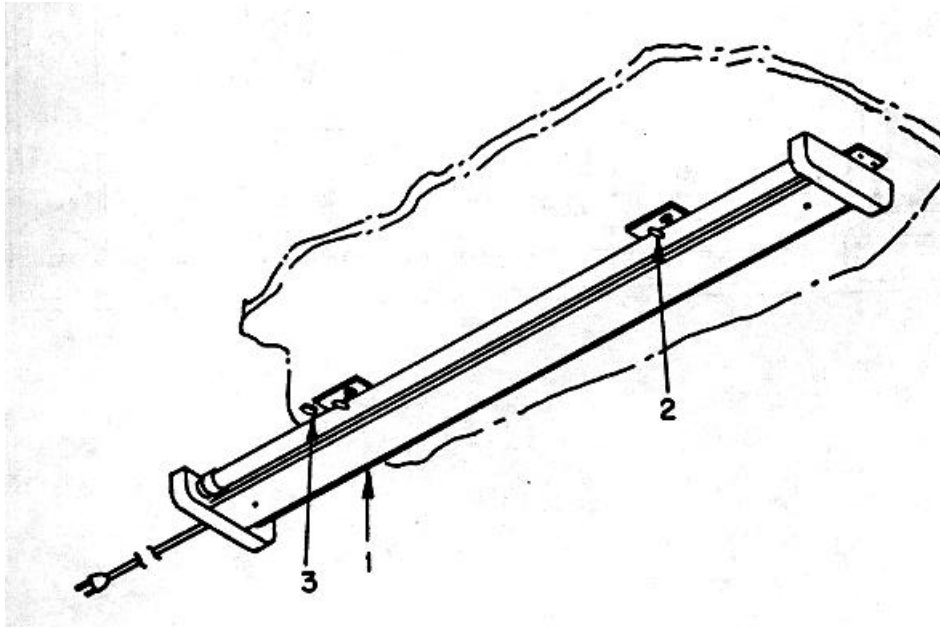
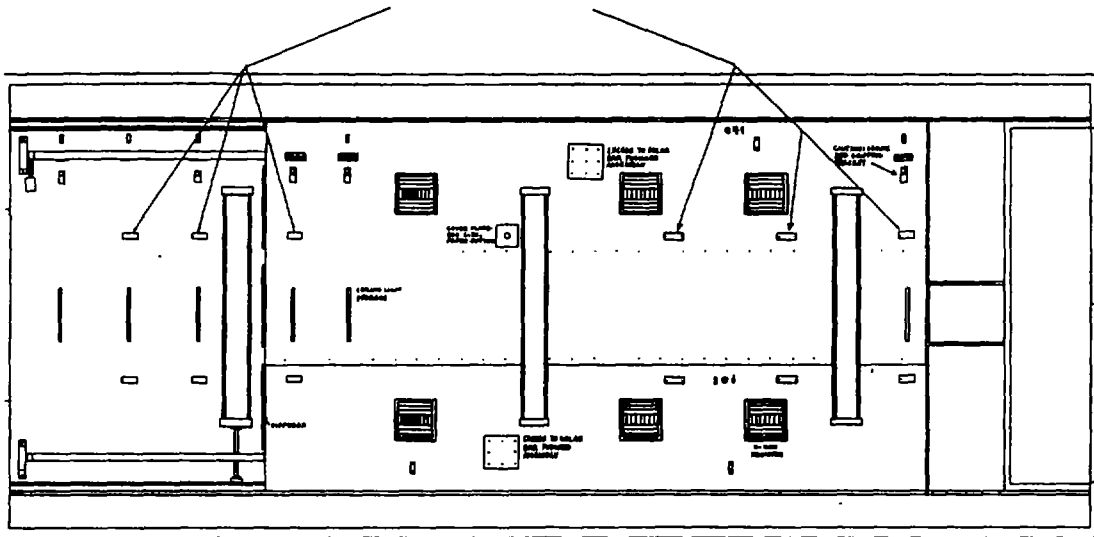

Figure 2-14. Ceiling Light Assembly
Figure 2-15. Ceiling Light Assemblies, Stored Location, View Looking up at Ceiling
(8) Ceiling lights assemblies. Refer to figure 2-14 and remove ceiling light assemblies (1) from their ceiling storage brackets (2) by rotating safety release bracket (3) and sliding the light assembly over the button to allow the assembly to drop from its mounting stubs. Install the lights onto the expanded shelter section ceilings. Connect electrical cord from each light assembly to the ceiling receptacles. Light storage locations (4) are shown in Figure 2-15.